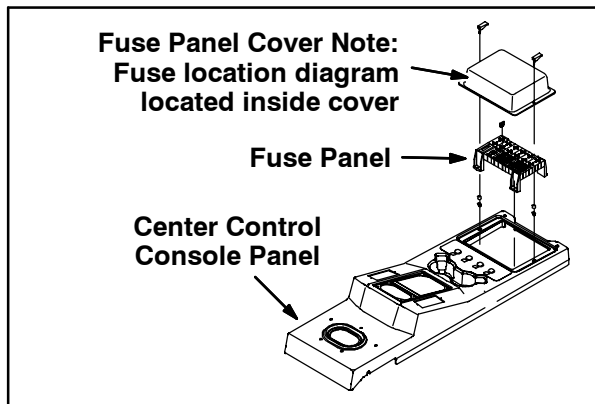
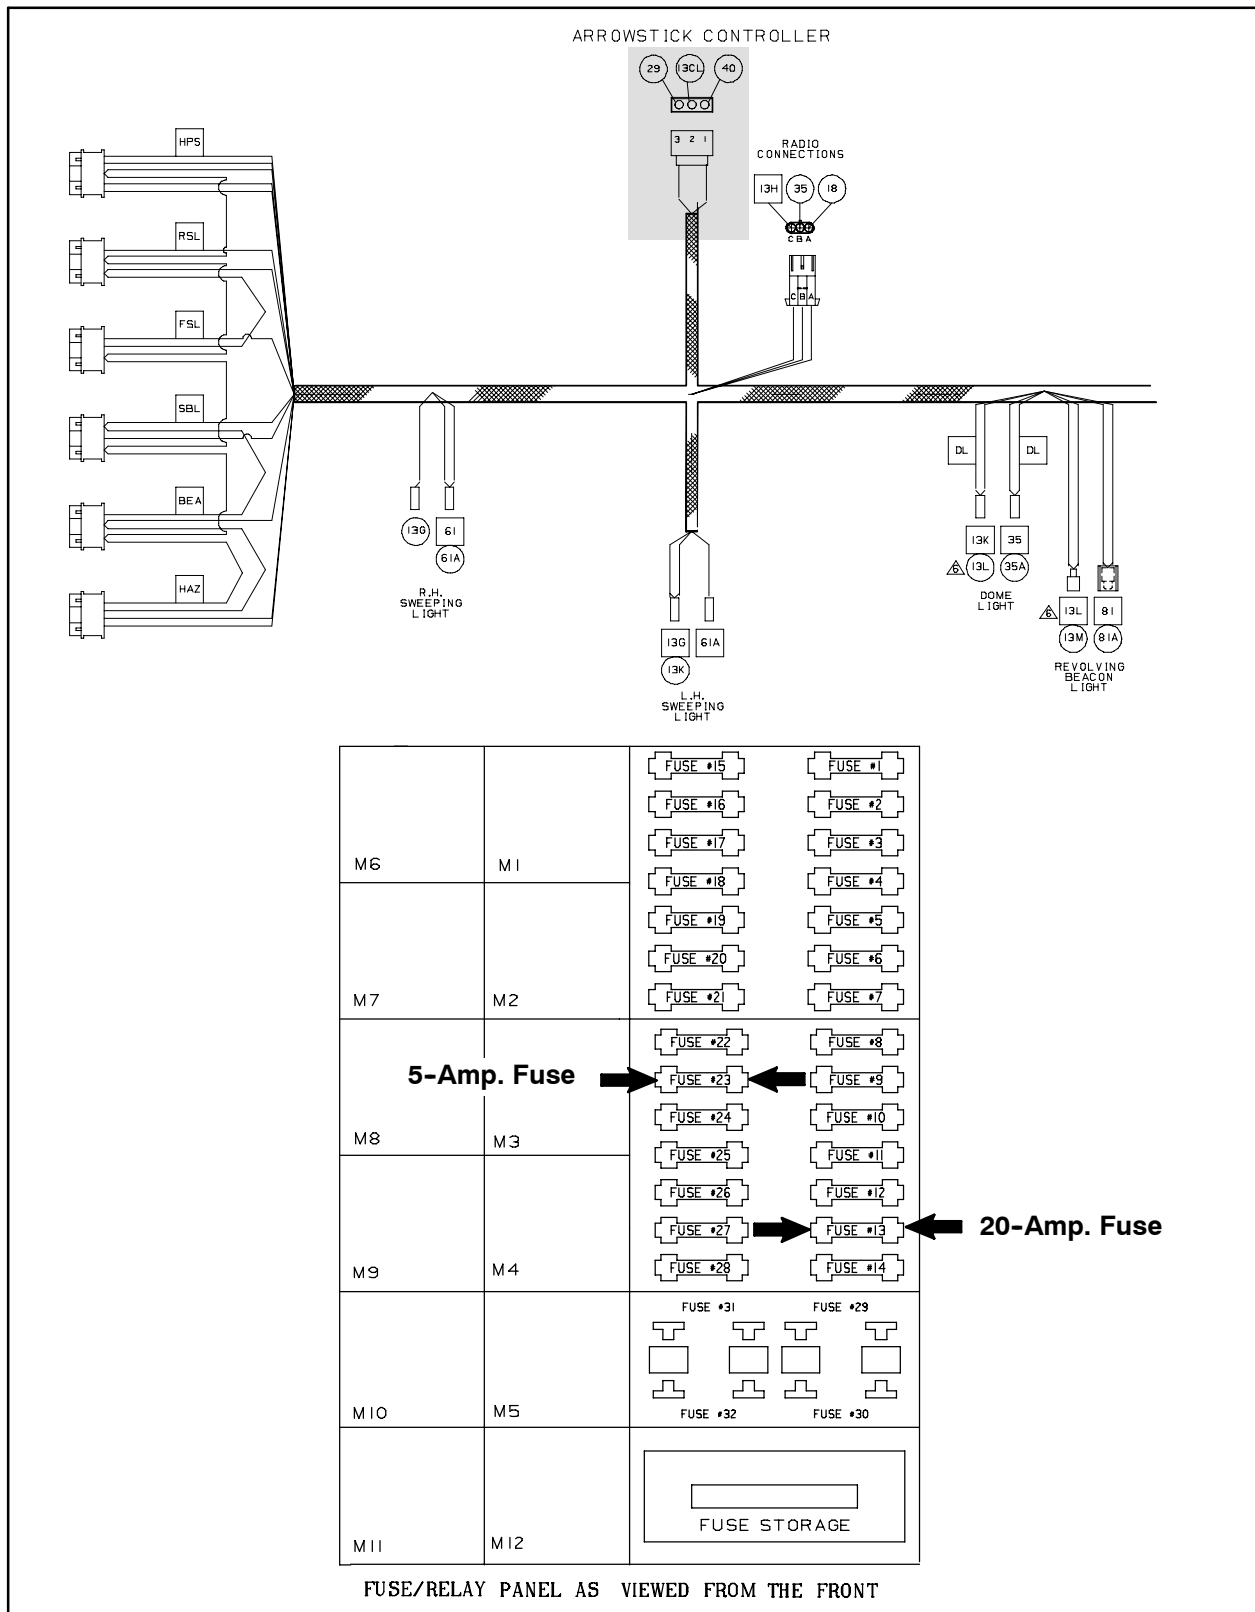

FIG. 8
FIG. 29
11. Remove the fuse panel cover from the center control console panel. Set the fuse panel cover aside. Refer to Fig. 8.
12. Remove the hardware securing the fuse panel to the center control console panel and set the fuse panel next to the center control console panel. **Do not** disconnect the wire harness from the fuse panel. Set the hardware aside. Refer to Fig. 8.
13. Install the 20-Amp. fuse (4) into fuse box position FU-13 and the 5-Amp. fuse (11) into fuse box position FU-22. Refer to the label on the bottom of the fuse panel cover for fuse positions in the fuse box. Refer to Fig. 8 and Fig. 29.
43. Connect the cable from the arrow stick light to the arrow stick cable assembly (2).
45. Reinstall the fuse panel and fuse panel cover onto the center control console panel. Refer to Fig. 8.